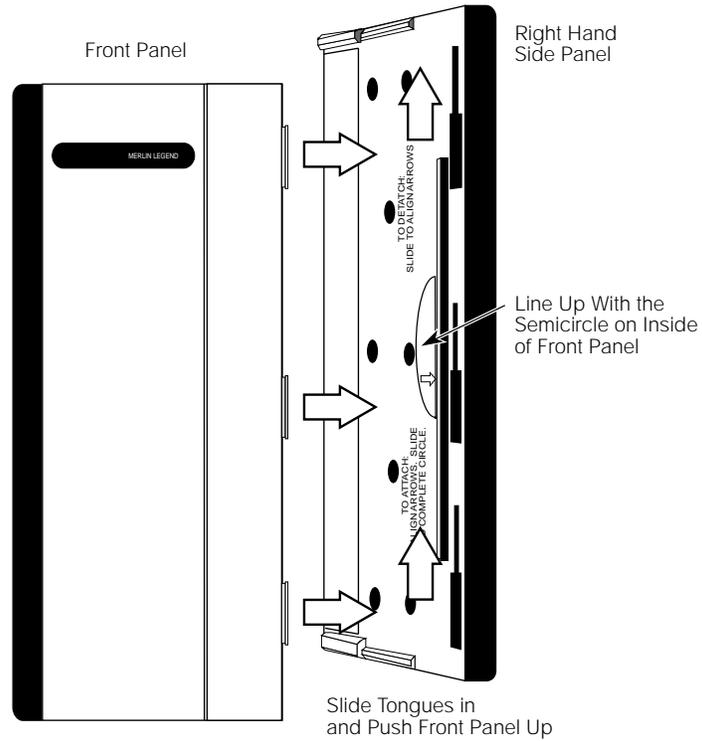

Figure E-2. Installing the Control Unit Housing
- b Slide the panels until the semicircles form a complete circle. See Figure E-2.